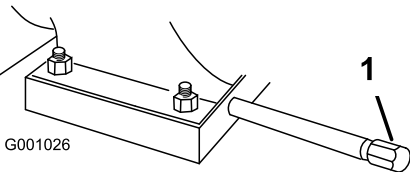

Figure 53
- 1. Clean the area around the oil drain cap (Figure 53).